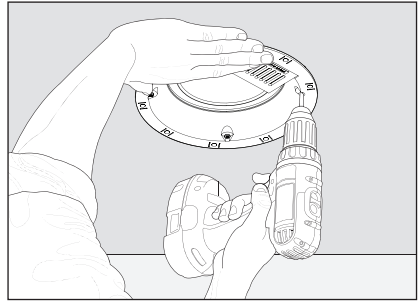

Fig. 5d
10. Supporting the assembly with one hand, tighten each screw using the electric drill and Torx T20 bit. Stop tightening when you sense resistance (Figs. 5d & 6d). MC6-HT: Before tightening screws orient speaker so the drivers are positioned towards the desired position.